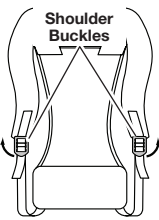

Fig. 3
- Pull up on the bottom tabs of the shoulder support buckles to loosen the shoulder supports (Fig. 3).